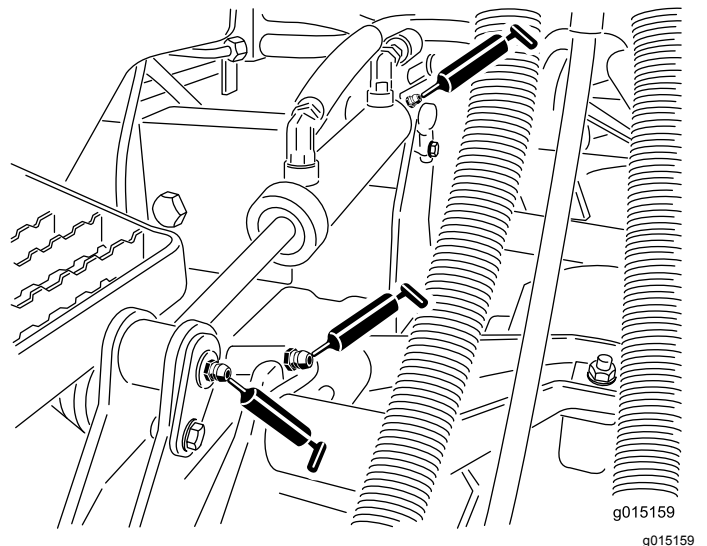

Figure 70
- Lift arm bushings (1 per cutting unit) (Figure 70)
- Lift cylinder bushings (2 per cutting unit) (Figure 70)